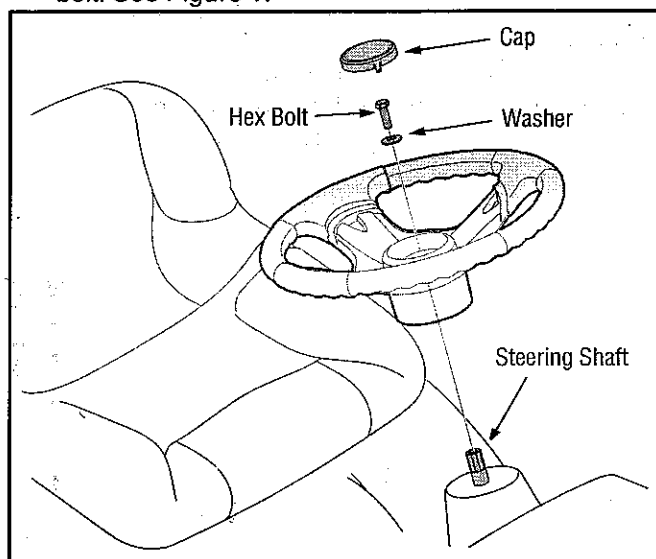

Figure 1
3. Place the washer (with the cupped side down) over the steering shaft and tightly secure with the hex bolt. See Figure 1.